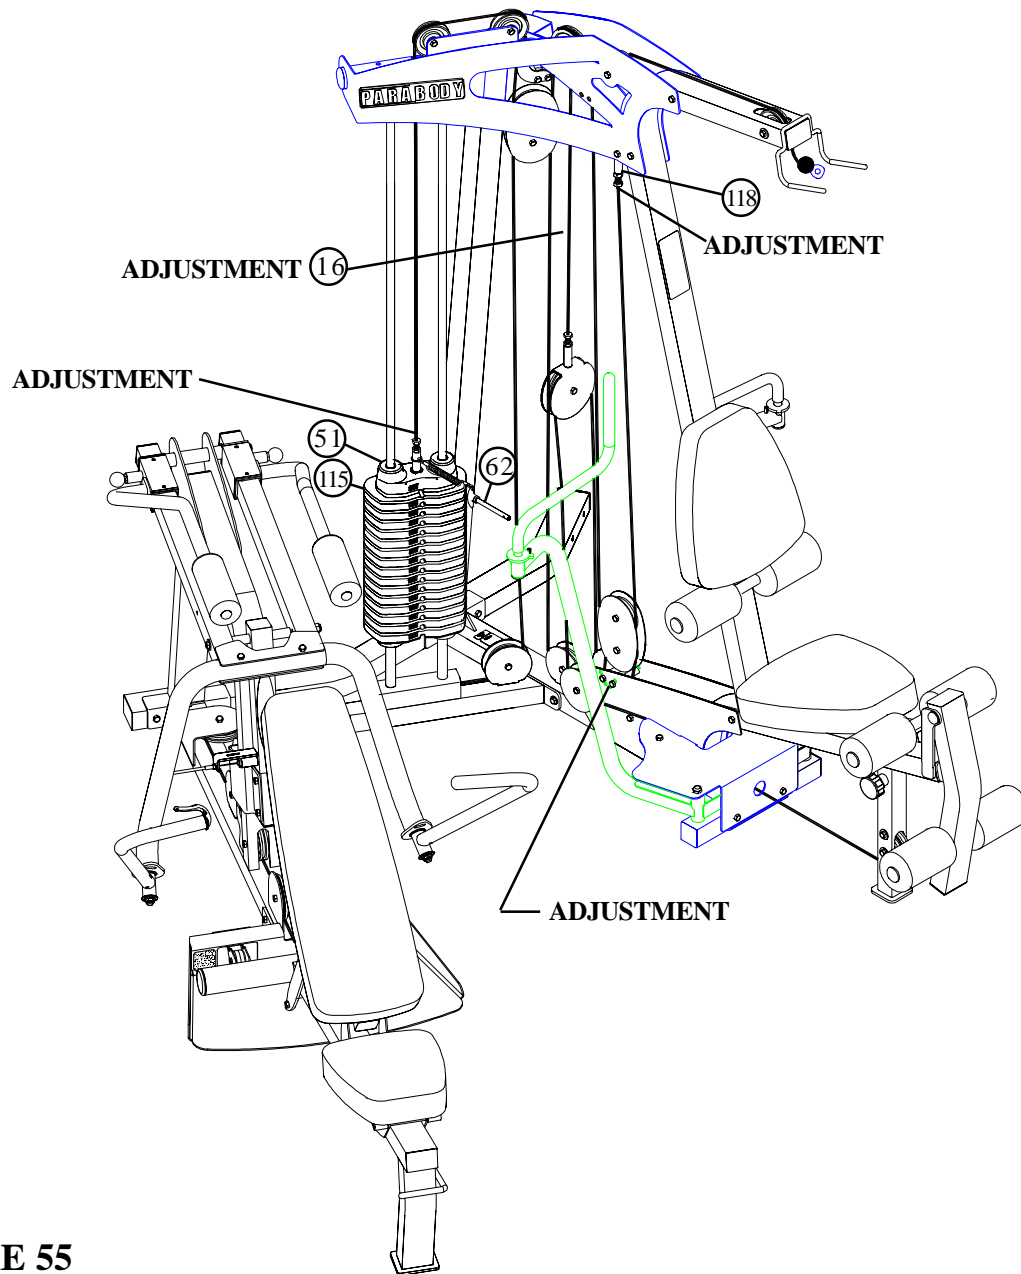

FIGURE 55
- If upon completion of assembly, the HEAD PLATE (51) does not sit on top of the first WEIGHT PLATE (115), push the HEAD PLATE (51) down, insert the WEIGHT STACK PIN (62) and perform several repetitions. This will relax the cable system and prevent the HEAD PLATE (51) from lifting up. See FIGURE 55.
- If after completing the previous step, the HEAD PLATE (51) still does not sit on top of the first WEIGHT PLATE (115) or if there is excess slack in the cable system, adjust the threaded ends of the CABLES attached to the FLOATING PULLEY BRACKET (16) and the THREAD HOUSING (118) accordingly and retighten the jam nuts. See figure 55.
- For maximum performance, the HEAD PLATE (51) should just barely sit on the top WEIGHT PLATE (115).